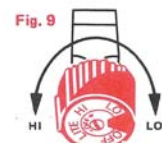

Fig. 9
6. Approximately 20 to 30 seconds after ignition, the yellow flame will subside and the screen will glow bright red. When this happens, turn control knob to the desired heat setting "HI-LOW", (Fig. 9). If, however, it should flare up with high yellow flames, shut off and wait until flames have died out. Allow heater to stand for five minutes and repeat lighting procedure.